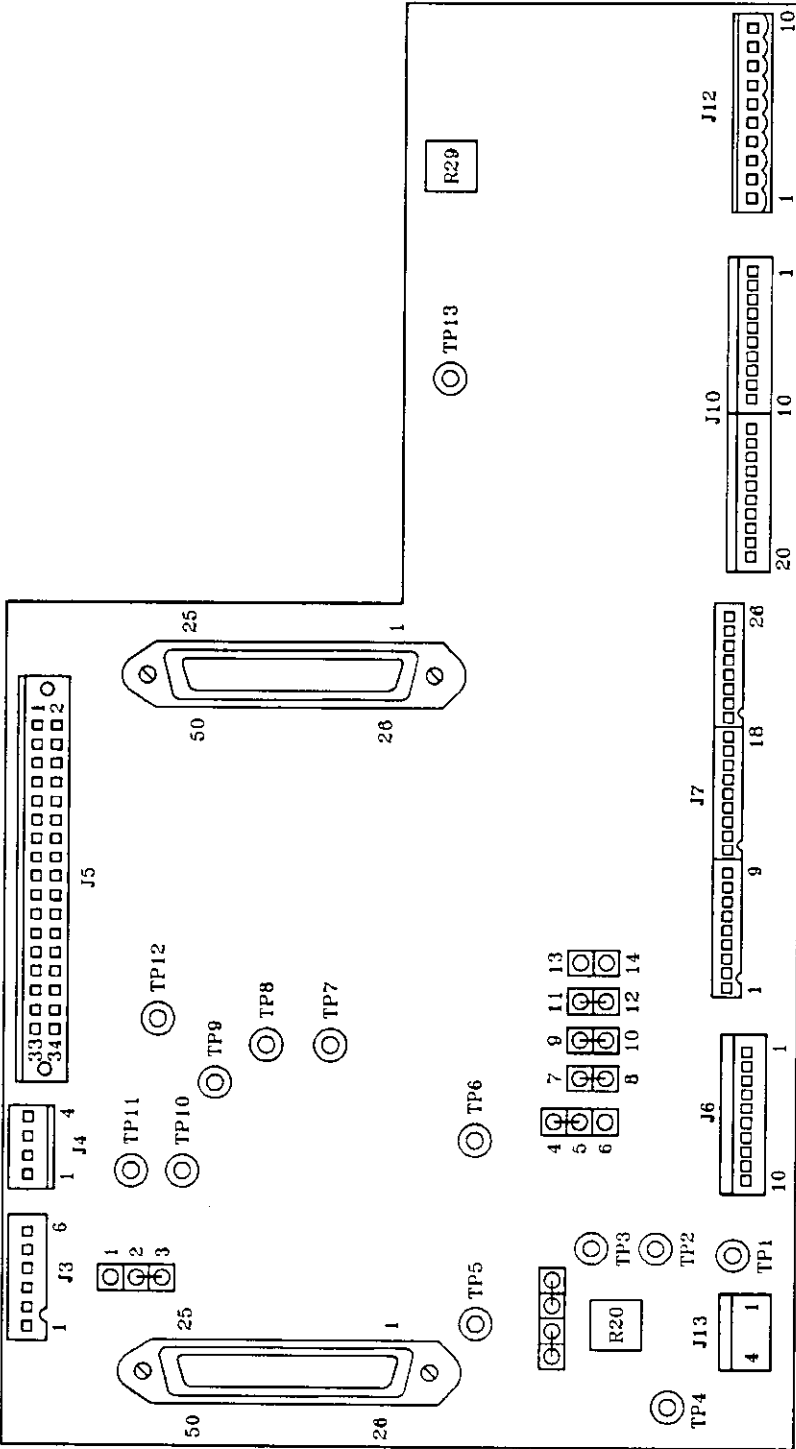

Figure 7-6: Front Panel Board
*See figure 7-6 for location of jumpers and adjustments.*